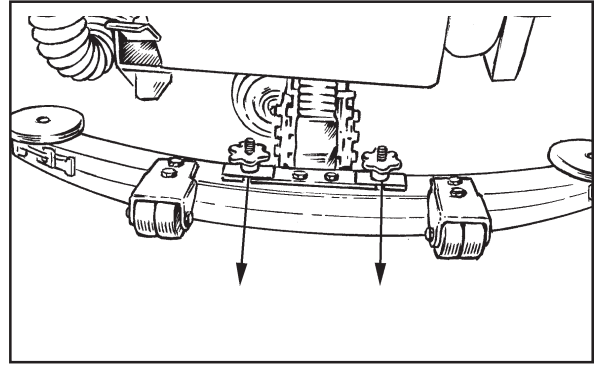

Figure 31
1. Remove the squeegee assembly by loosening the two knobs that attach the squeegee to the machine. Pull the squeegee assembly off. See figure 31.